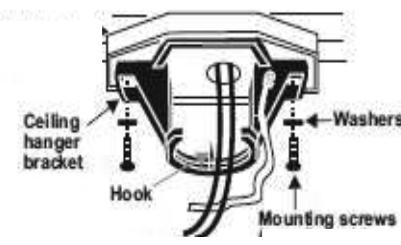

Figure 7
3. Secure the hanger bracket to the ceiling using the screws and washers included. (Fig. 7)